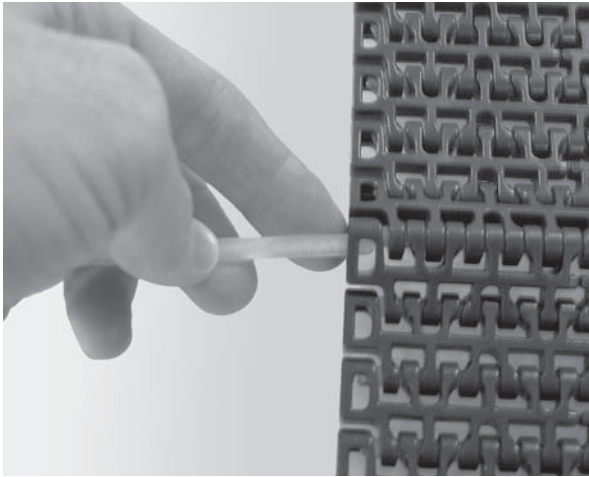

Figure 51
2. Use a second belt rod of the same size to push on the opposite end of the belt rod. (Figure 51).